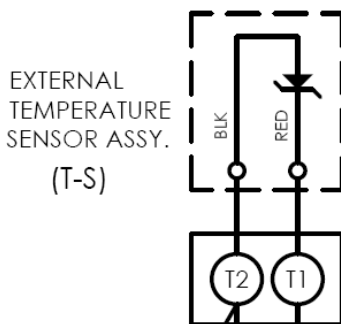

Figure 5 – External Temperature Compensation Connection
2. Connect the black lead of the external probe to the other end of terminal **T2**, and the red lead to the other end of terminal **T1**. Refer to Figure 5.